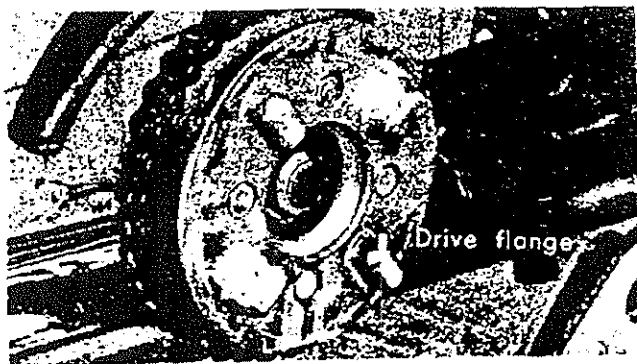

Fig. 42
- e) When replacing rear wheel, be careful to see that the damper rubber is fitted in the groove in the wheel hub. (Fig. 42)
(3) Periodic Checking